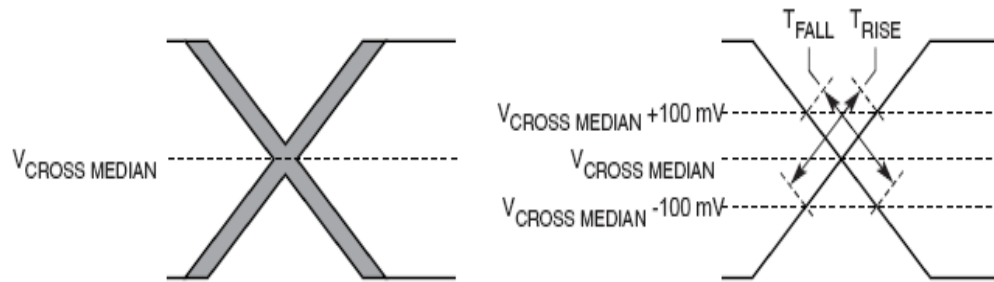

Figure 48. Single-Ended Measurement Points for Rise and Fall Time Matching
- Matching applies to rising edge for $\overline{\text{SDn_REF_CLK}}$ and falling edge rate for $\overline{\text{SDn_REF_CLK}}$. It is measured using a 200 mV window centered on the median cross point where $\overline{\text{SDn_REF_CLK}}$ rising meets $\overline{\text{SDn_REF_CLK}}$ falling. The median cross point is used to calculate the voltage thresholds that the oscilloscope uses for the edge rate calculations. The rise edge rate of $\overline{\text{SDn_REF_CLK}}$ should be compared to the fall edge rate of $\overline{\text{SDn_REF_CLK}}$, the maximum allowed difference should not exceed 20% of the slowest edge rate. See Figure 48.